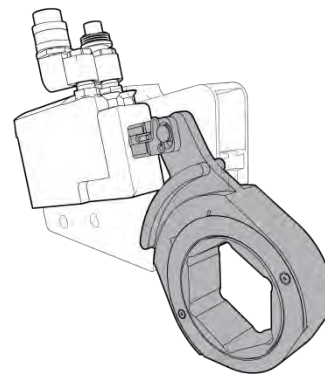

FIGURE 10 – Fully Retracted NHC Piston
- b. NHC tools – You are able to see the cylinder drive pin through the hole in the tool body and the pressure returns to approximately 1500 psi. See FIGURE 10.